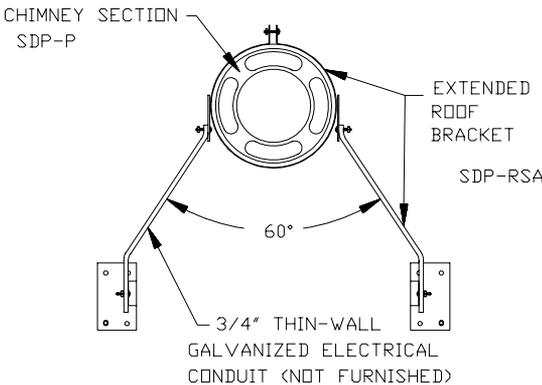

Fig 18
2. Install Roof Brackets: Measure from the **Pipe Band** to the points where the conduit will meet the roof, and form approximately a 60° angle with the chimney, and with each other. (Figures 18 and 19). Cut 2 pieces of 3/4 inch thin wall galvanized steel electrical conduit, (or rigid galvanized tubing) to these lengths. The